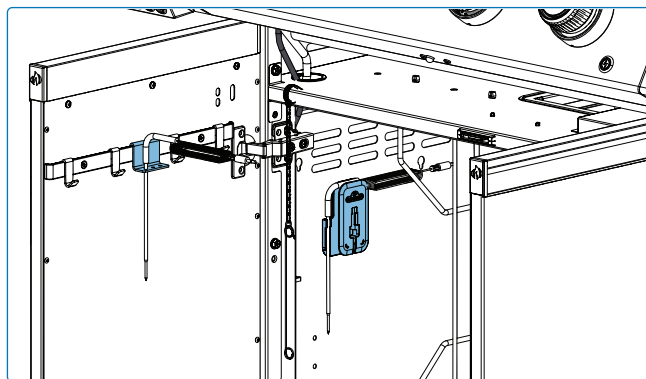

Fig. 10
- Store the rotisserie components on the designated clips inside the cart cabinet and the spit rod on the back of the grill when not in use. This keeps them secure, protected from weather exposure, and easy to access for your next cook. Always ensure the parts are clean and dry before storing to prevent corrosion (**Fig. 10 & 11**).